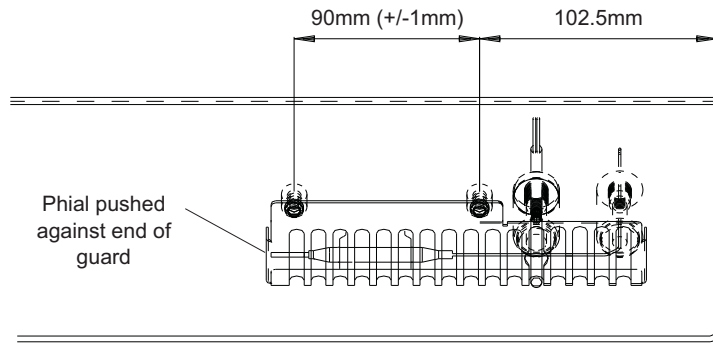

**Figure 5**
**Condition** - The filtration pump (*where fitted*) is not working. (Refer to Figure 5)